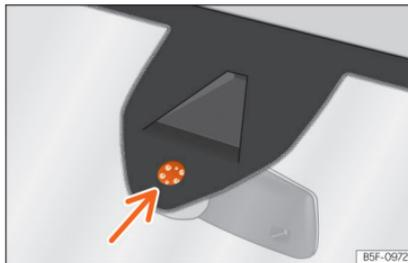

Fig. 100 Rain sensor sensitive surface
Possible causes of faults and mistaken readings on the sensitive surface »» » Fig. 100 of the rain sensor include:
- Clean the sensitive surface of the rain sensor regularly and check the blades for damage »» Fig. 100 [arrow].